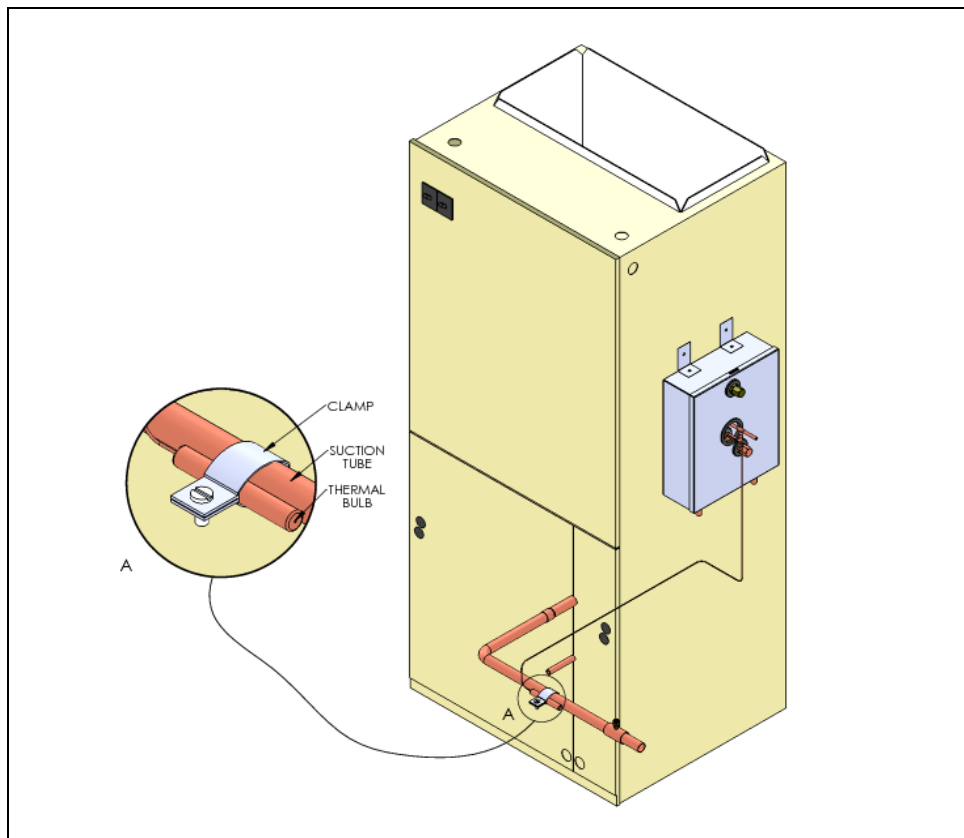

Figure 7. Clamping the Thermal Bulb
Step 4: Clamp the thermal bulb firmly against the **clean suction tube** and parallel to it, as shown in Figure 7.